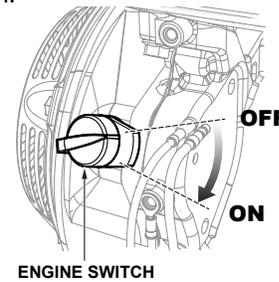

Figure 19. Engine ON/OFF Switch
2. Place the **Engine ON/OFF switch** (Figure 19) in the "ON" position.